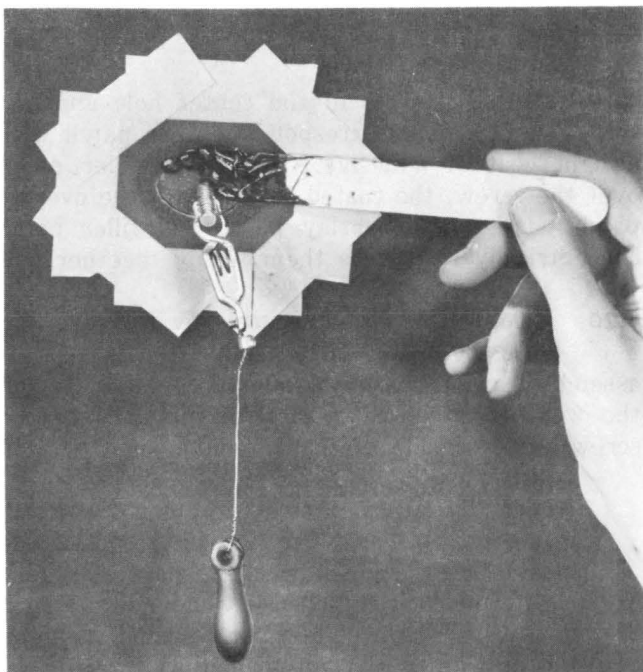

Fig. 9—Coating Filler Patch Before Applying Exterior Overlap Patch
- 4.22 Fill the gap around the filler patch with adhesive, and then coat the surface of the filler patch and the weather cover surface between the cutout and the masking tape with a thin coat of adhesive (see Fig. 9).